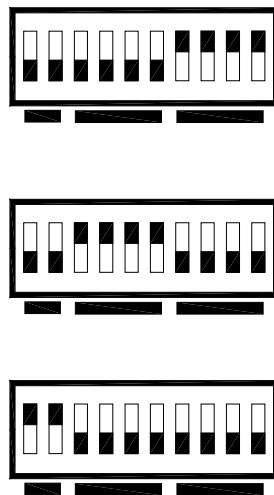

Figure 7-2: Com Configuration Jumper Settings (SW2)
4. Turn ON the switches specified for the desired Com configuration (see Figure 7-2.) All other switches on SW3 should be OFF.